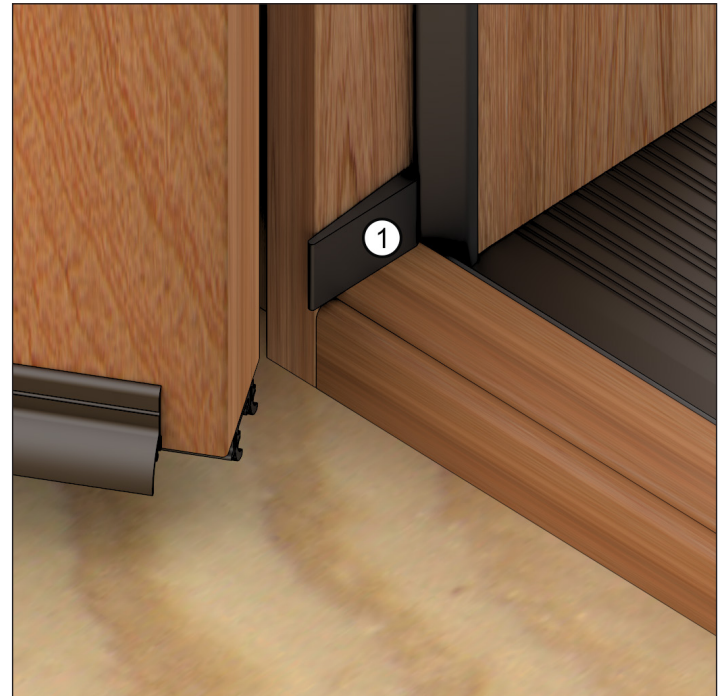

Figure 29
5. Peel the adhesive back from the corner seal wedge and place on the bottom of each operating jamb. See figure 29.